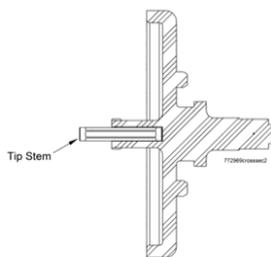

Figure 8-1 Piston Assembly
Refer to Fig. 8-1 for proper location of the auxiliary reservoir charging valve (18), the emergency reservoir charging valve (17) and the balancing valve (13).
1. Insert ER stem (17) and new retaining ring (20) into ER hole in cover assembly (1).
2. Install new AR sealing ring (19) into cover assembly (1) and insert stem (18) and new retaining ring (20) into AR hole in cover assembly (1).
3. Insert spring (14), washer (15), and new lightly greased K-Ring (16) onto stem (13) then insert stem (13) and new retaining ring (20) into balancing valve hole in cover assembly (1).
5. Ensure that the stem (47) of the piston (48) is still in place. See Figure 8-1.